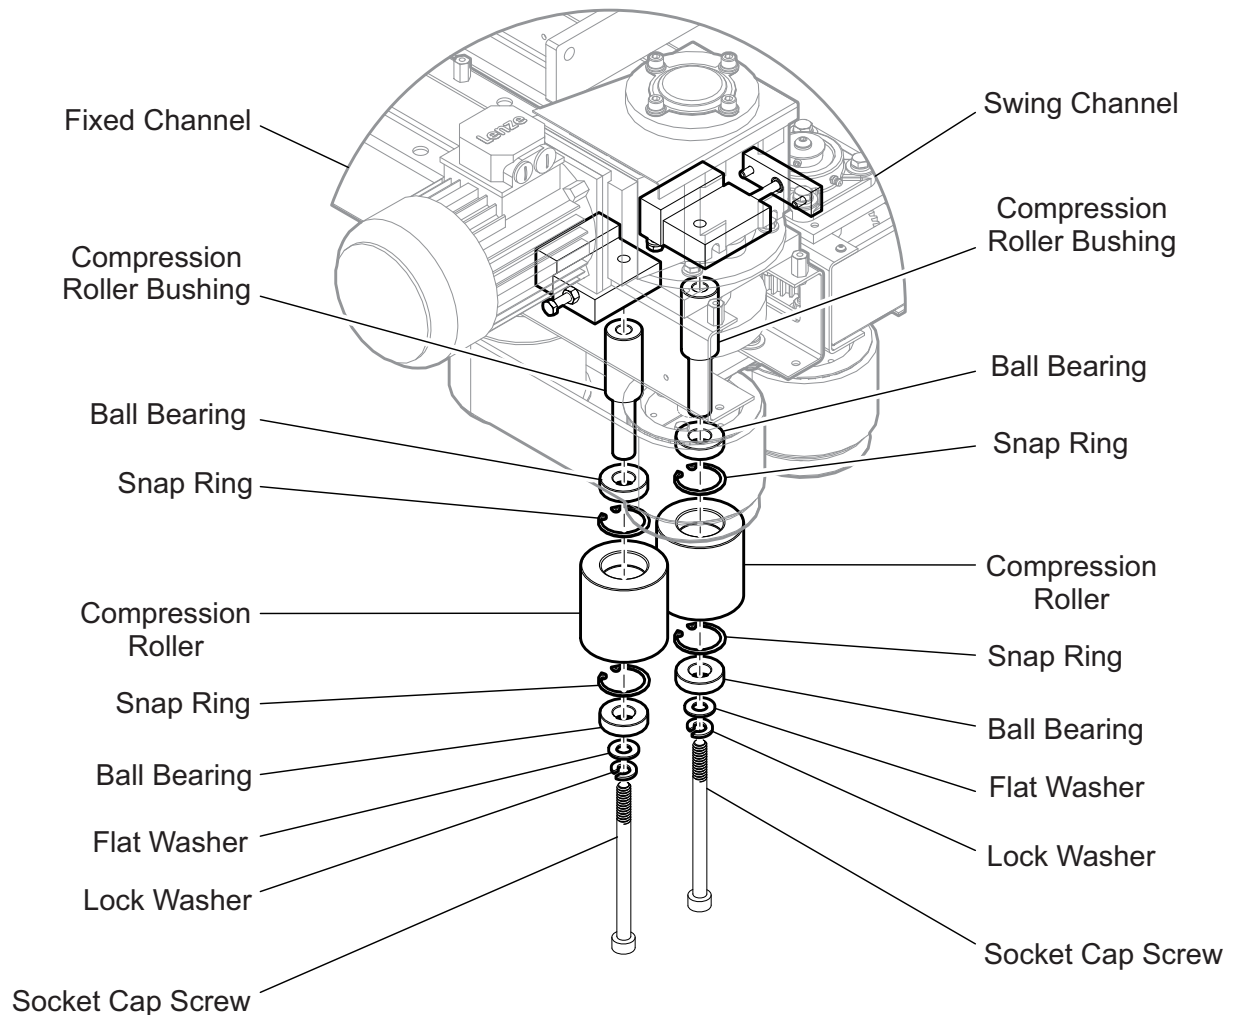

Figure 5-23: Compression Roller Components
The compression rollers are designed with two bearings that fit around the bushing of the assembly (see Figure 5-23: Compression Roller Components).
8. Place the new rollers (with bearings) onto the shafts as shown in Figure 5-23: Compression Roller Components. Place the bushings back in place.